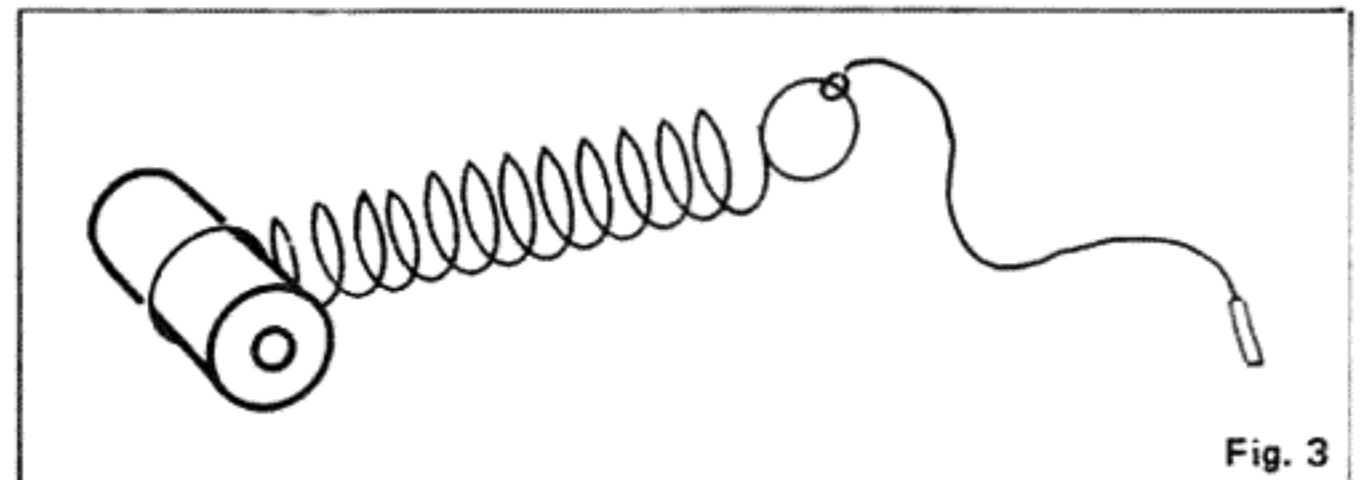

Fig. 3
- 10) Connect the new wire to the spring and the string to the other end of the new wire. (fig. 3)